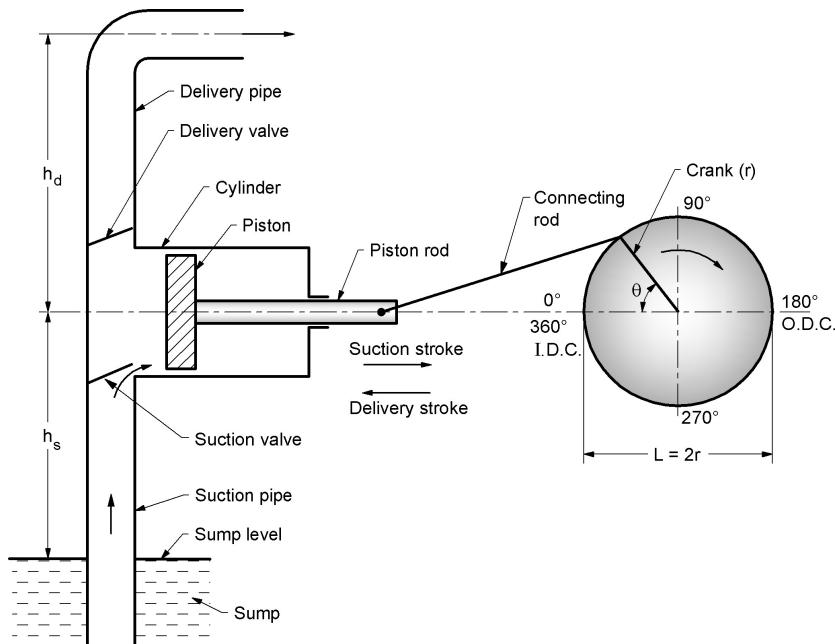

Fig. 10.1 Main parts of reciprocating pump
Fig. 10.1 shows schematic diagram of single acting reciprocating pump. The function of different components is described as follows:
1. In a single acting pump, water acts on one side of the piston only as shown in Fig. 10.1. When the crank starts rotating, the piston moves forward and backward in a close fitting cylinder.